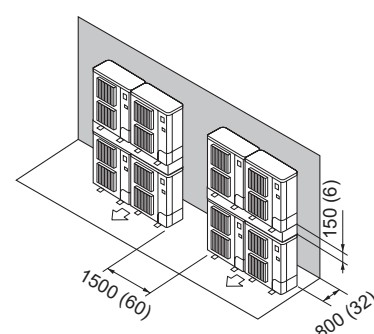

Fig. 2-18
- (7) Stacked unit arrangement (Fig. 2-18)